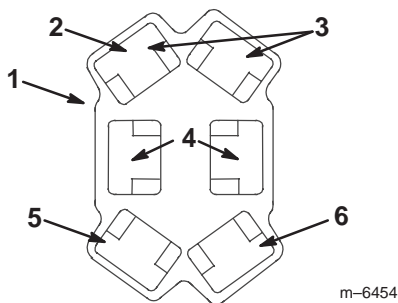

Figure 6
- A. Connect the red wire leads from a harness extension to the center sockets in one of the connectors on the end of the wiring harness (Fig. 6).
B. Connect the yellow wire with a blue stripe from the harness extension into the corner socket with the blue or yellow wire (Fig. 6).
C. Connect the white wire from the harness extension into the corner socket with the red or white wire (Fig. 6).